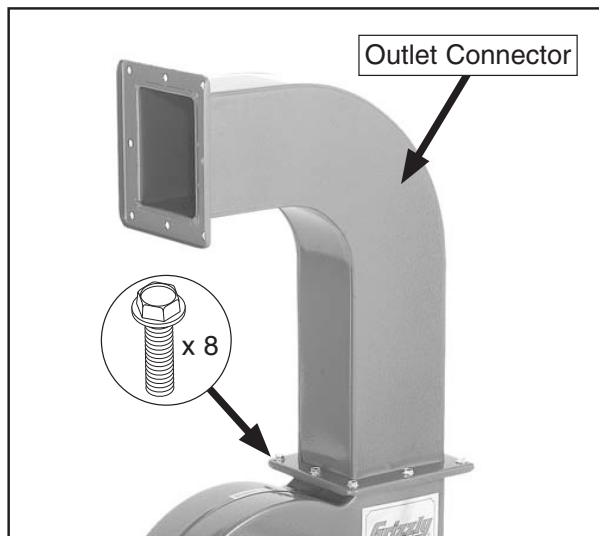

Figure 17. Outlet connector installed.
5. Secure the outlet connector to the impeller outlet with (8) $\frac{5}{16}$ -18 x $\frac{1}{2}$ " flange bolts, as shown in **Figure 17**.